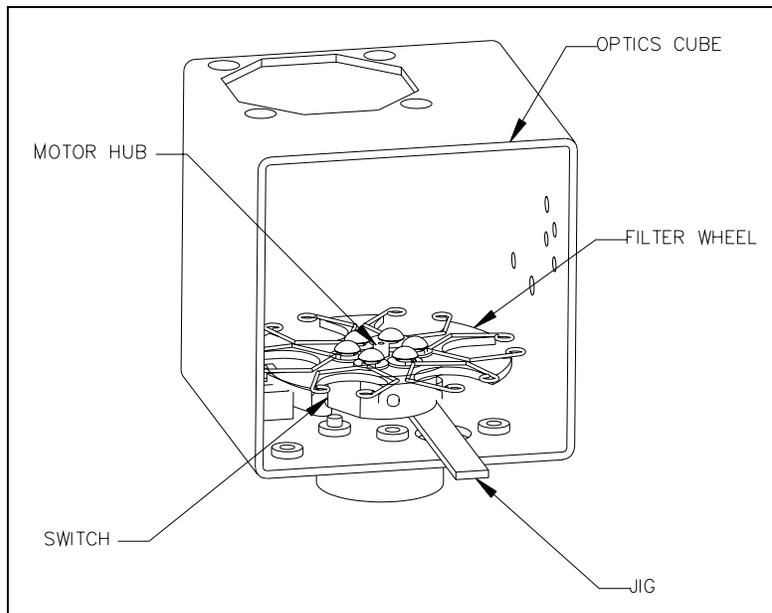

Figure 11-29 Removing the Filter Wheel
- 1 Remove the filter wheel by loosening the set screw tightened against the motor shaft and remove (Figure 11-29).